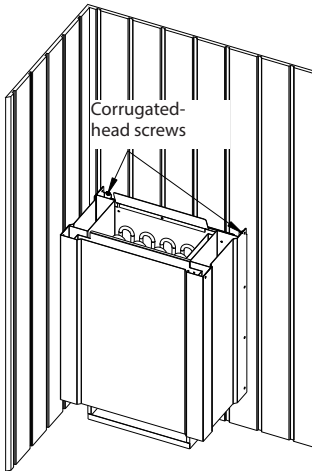
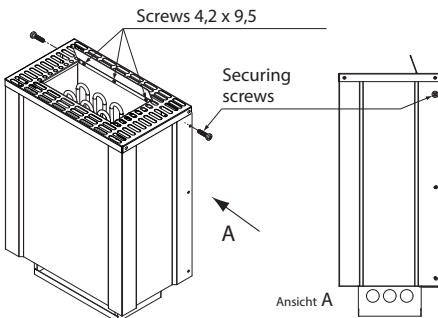

Fig. 6
Fig. 7
7. Secure the heater on the sauna wall behind it using 2 screws through the holes in the rear upper edge of the heater (see fig. 6) or alternatively secure it to the side wall, as shown on fig. 7.
In contrast to the information on sensor installation in the installation instructions for your sauna control unit, the sensor for this heater is mounted centrally above the heater on the cabin wall, 5 cm below the ceiling (Fig. 6).